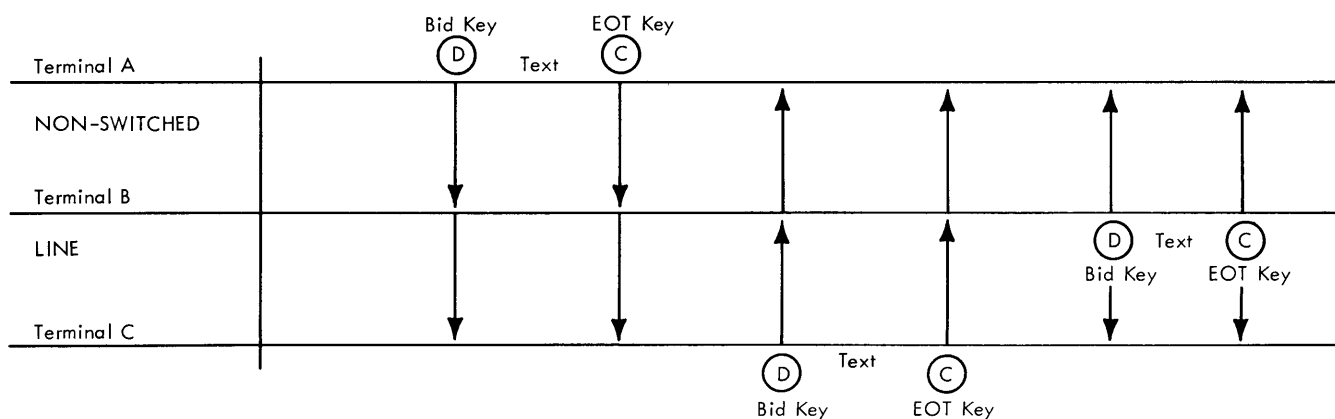

Figure 7. Broadcast Operation (No Special Features)
operation. The basic difference is that now message transmission is on a broadcast basis (Figure 7). Thus, all terminals on this line, in a ready condition and in a standby status, switch to a receive status when the (D) signal from the initiating terminal is received. All terminals now in receive status accept and print all transmitted messages, until an EOT signal is sent from the transmitting terminal, or until terminal runs out of paper (paper presence contact not locked out). At this time, all terminals switch to a standby status.